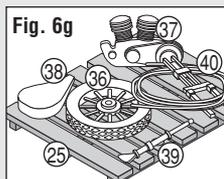

Fig. 6g
- Glue Engine ㉗, Seat ㉘, Tire ㉙, Muffler ㉚, and Cable and Fork ㉛ onto Pallet ㉜ (Fig. 6g).